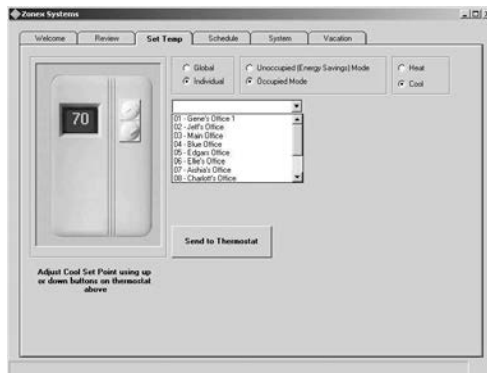

Fig. 22
- To change temperature setpoints on all thermostats, click on the **Global** radio button (see Fig. 22).